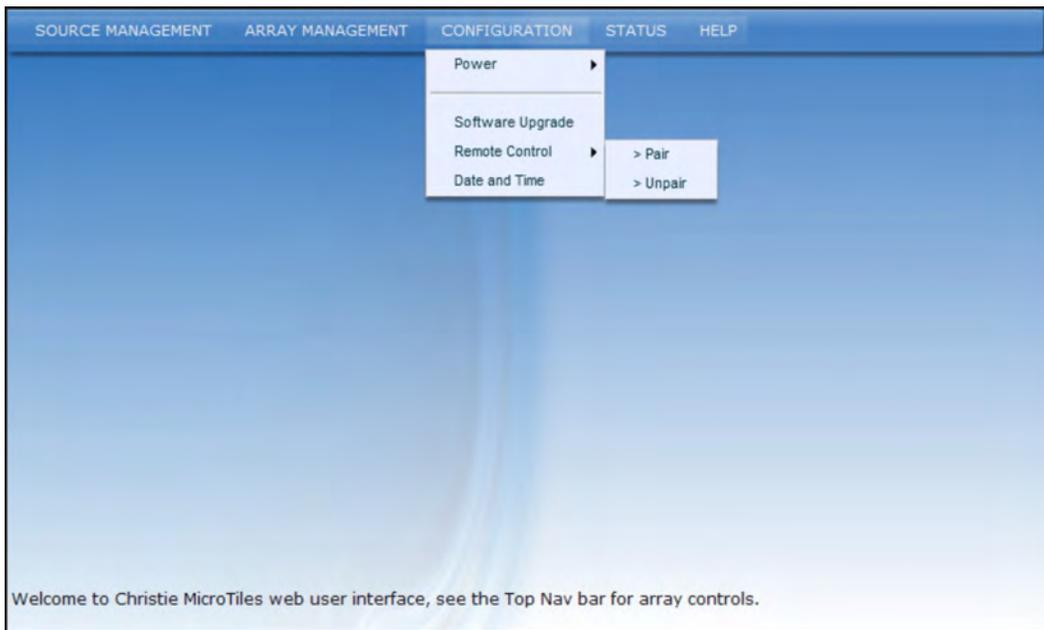

Figure 3-37 Pairing the Remote via the WebUI
2. From the drop-down menu click on **Remote Control** and then **Pair** (Figure 3-37).